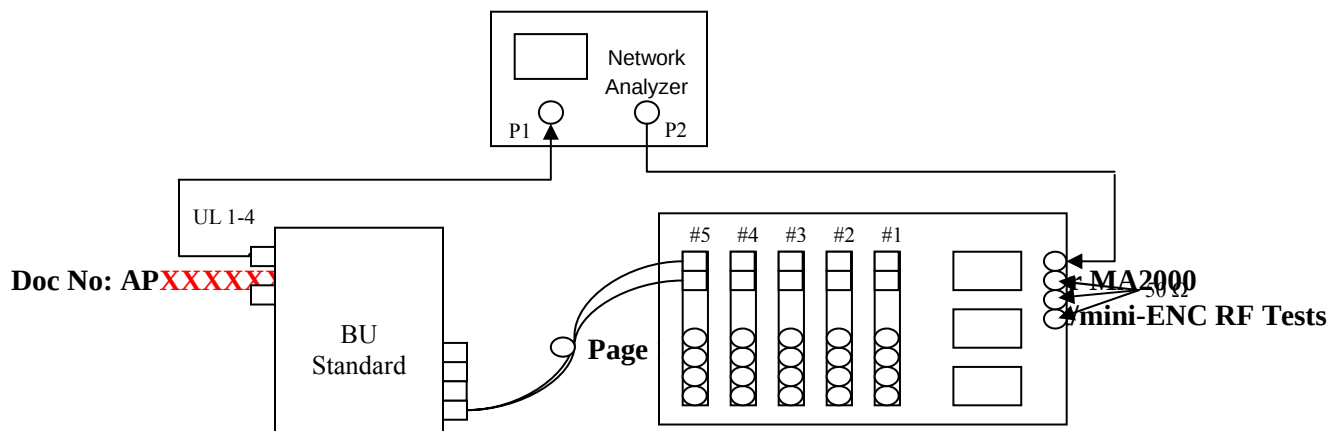

Figure 9.1 UL Return Loss Setup
9.2. Connect Network Analyzer to the relevant Cabinet Antenna port, UL BU port and BU to the relevant RHU in the cabinet, as shown at Figure 9.1.